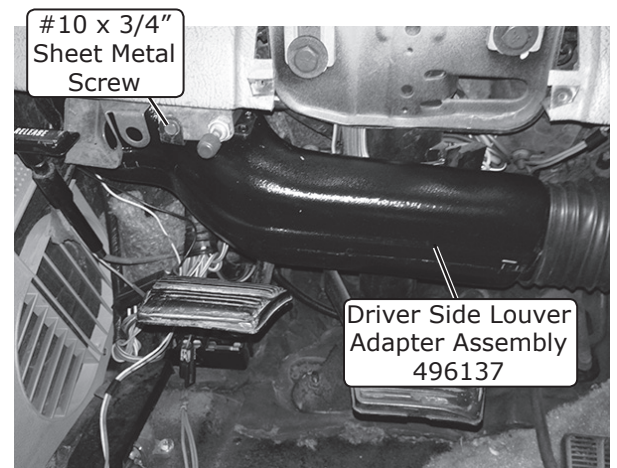

Figure 20
1. Install the driver side louver adapter assembly as shown in Figure 20, below.